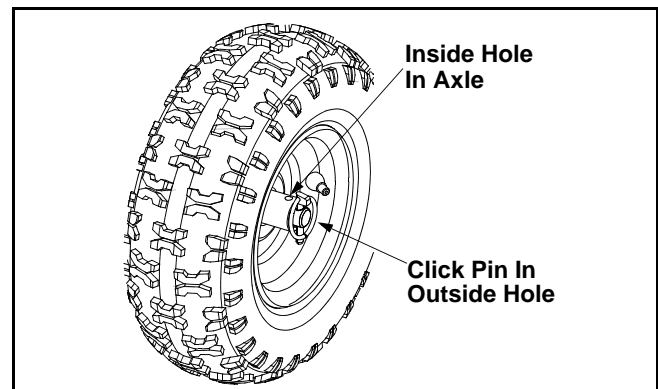

Figure 12
- The wheels may be adjusted for two different methods of operation. Follow the steps below for adjustment. See Figure 12.